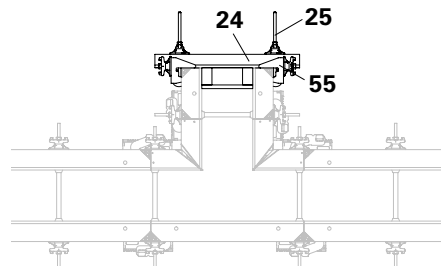

Fig. A9.02
For the arrangement and number of horizontal Walers 85 (24) with Stopend Tie TS (25) and Top Tie Bracket AH (55) with tie sets, see Section A12 Stopend formwork with timbers. (Fig. A9.02)